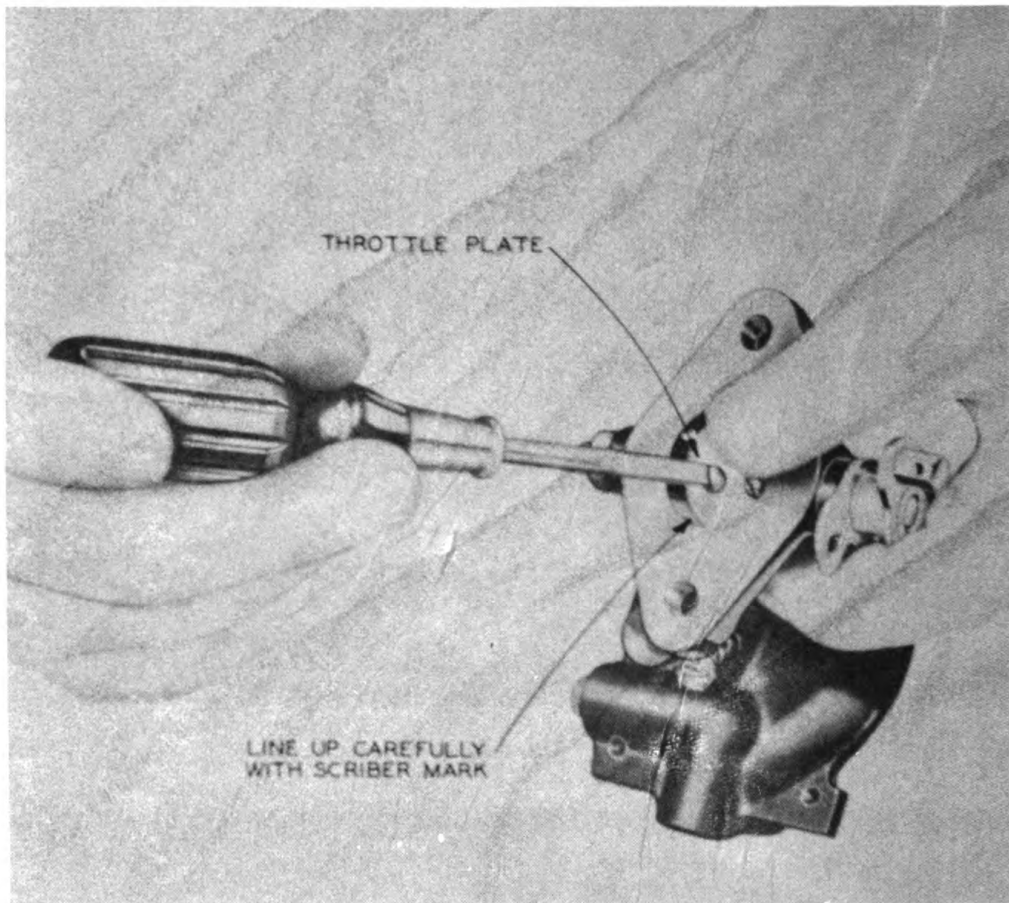

Fig. 115
14. Install throttle plate (SEE NOTE "A"). The throttle plate should be properly centered before tightening the screws and lockwashers securely. (Fig. 115)
3. Using this scribed line as a guide, replace the throttle shaft or plate. If new plate used shows a noticeable variation from old one, select another new plate to get one that fits very close to the scribed line when installed. (Fig. 115)